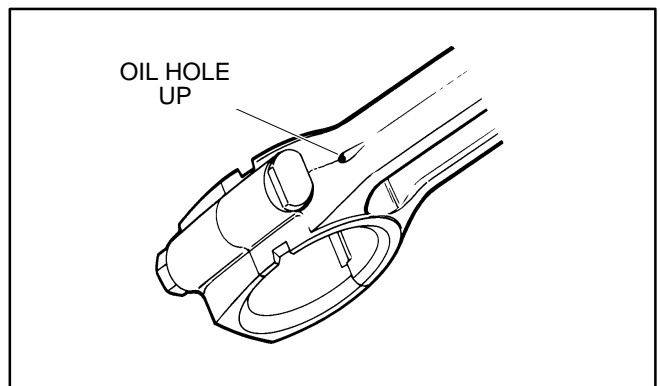

FIGURE 49. CONNECTING ROD OIL HOLE
4. Position the piston and rod assembly in the cylinder block with the connecting rod oil hole up (Figure 49).